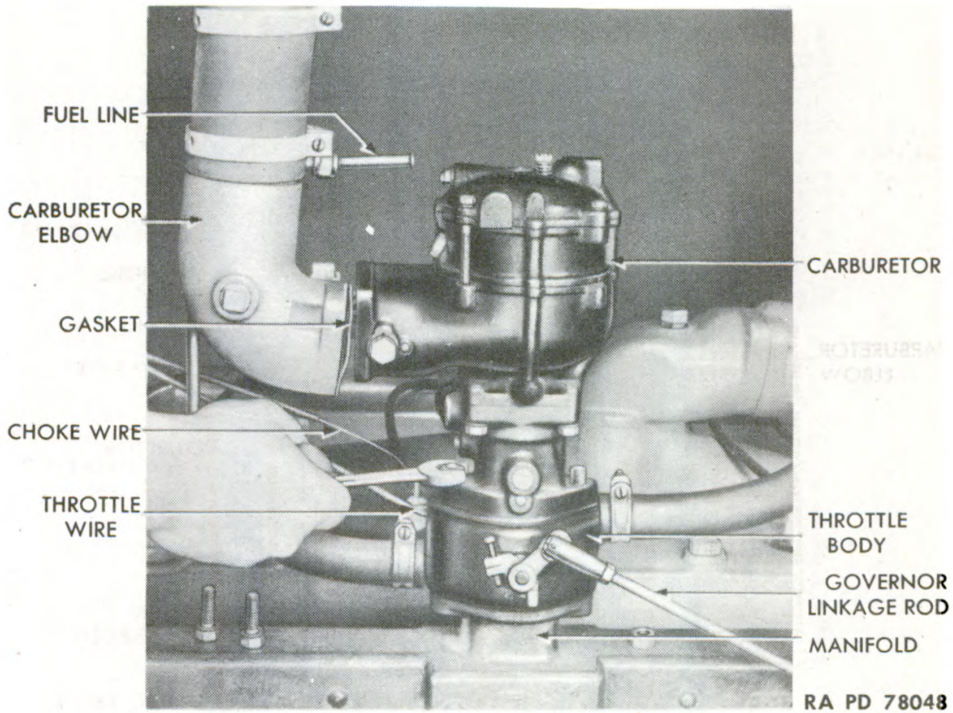
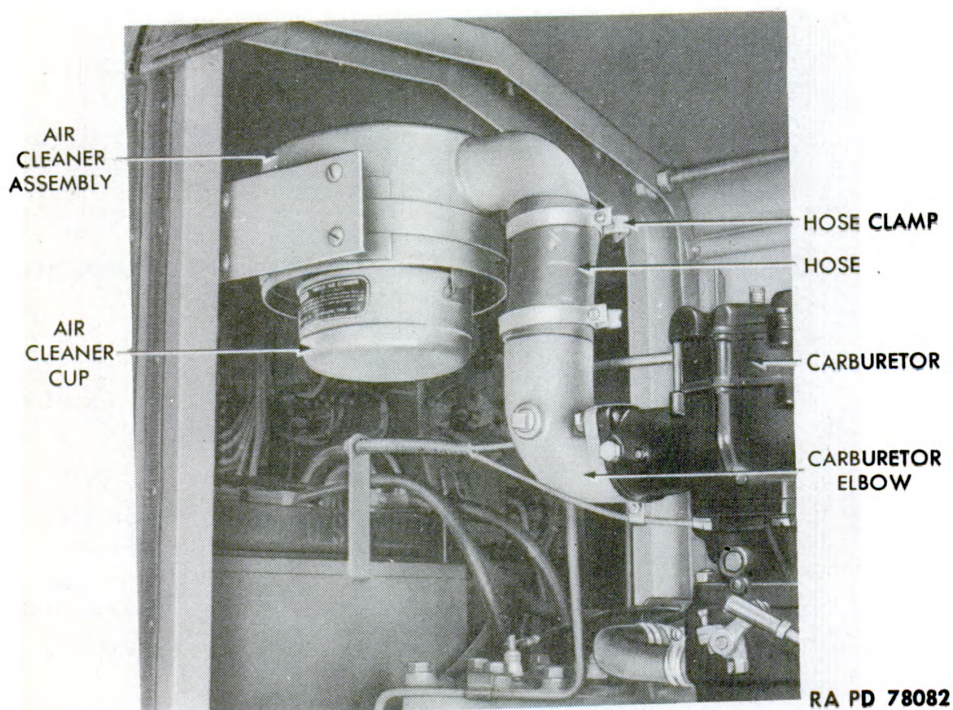
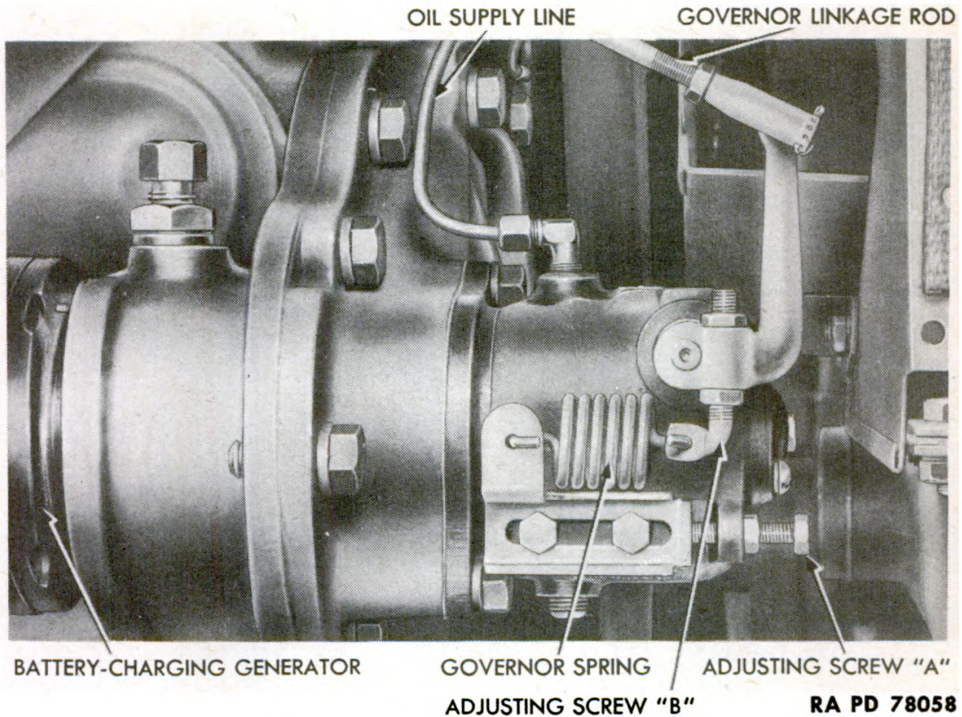

Figure 38 – Carburetor Removal
Figure 39 — Air Cleaner — Installed
Figure 41 – Governor – Installed
b. Functioning. Suction action of the fuel pump brings the fuel from the tank to the pump, which then forces it to the top of the carburetor, where it is converted into an air and fuel vapor mixture. The suction of the engine pistons pulls the air through the air cleaner into the carburetor where it picks up fuel vapor. The mixture is then drawn through the throttle body to the intake section of the manifold. The governor (fig. 41), operated from the timing gear, is set to hold the engine at a predetermined speed. The choke, operated manually from the instrument panel, regulates the air supply, and thereby makes the fuel mixture rich. The throttle, also operated manually from the instrument panel, regulates the amount of mixture supplied to the engine.
c. Removal (fig. 38).
(1) Loosen nut on compression fitting at back of carburetor, and disconnect fuel line from carburetor.
(2) Remove cap screws securing elbow to carburetor.
(3) Loosen screws securing choke, and throttle wire to carburetor, and remove wires.
(4) Unscrew nuts holding carburetor to throttle body and remove carburetor. **NOTE:** Remove nut at right side of carburetor first.
d. Installation (fig. 38).
(1) With gaskets in place on throttle body, place carburetor in position on throttle body and secure with two nuts. Tighten nuts evenly to prevent breaking lower carburetor flange.
(2) Place gasket between carburetor and elbow and secure elbow to carburetor with two cap screws.
(3) Attach throttle wire to throttle lever and choke wire to choke lever on carburetor.
(4) Carry compression fitting nut over the end of the fuel line, bring fuel line into fitting, and tighten nut to produce a firm joint. Start engine and check for gasoline leaks.
a. Description. The air cleaner (fig. 39) is the oil bath type and is mounted on the right center frame post above the rear of the engine. It is connected to the carburetor by a cast-iron elbow and a section of 2¼-inch rubber hose, 4 inches long. It has a removable cup which houses a deflector element. The upper section, or body, is filled with steel wire mesh. A removable filter element is attached between the cup and the body. The cup is readily removed to permit cleaning the elements inside.
d. Removal (fig. 39).
(1) Loosen screw on hose clamp securing hose to air cleaner elbow.
(2) Loosen nut on cap screw through clamp securing air cleaner assembly to cleaner bracket.
(3) Lift air cleaner assembly sufficiently to clear clamp, and remove.
e. Installation (fig. 39).
(1) With hose and clamps in position on carburetor elbow, place air cleaner assembly through clamp so that cleaner elbow enters hose.
(2) Tighten cap screw and nut on air cleaner clamp to secure cleaner to bracket.
(3) Position hose clamp on cleaner elbow end of hose and secure with screw furnished.
a. Construction. The governor (fig. 41) is a gear-driven, spring-loaded, flyball-type unit mounted on the right front side of the timing gear cover. It is connected through linkage with the throttle body valve.
(1) To increase speed, increase the spring tension by screwing in adjusting screw "A" (fig. 41). To decrease speed, decrease the spring tension. Be sure to tighten the lock nut after making an adjustment.